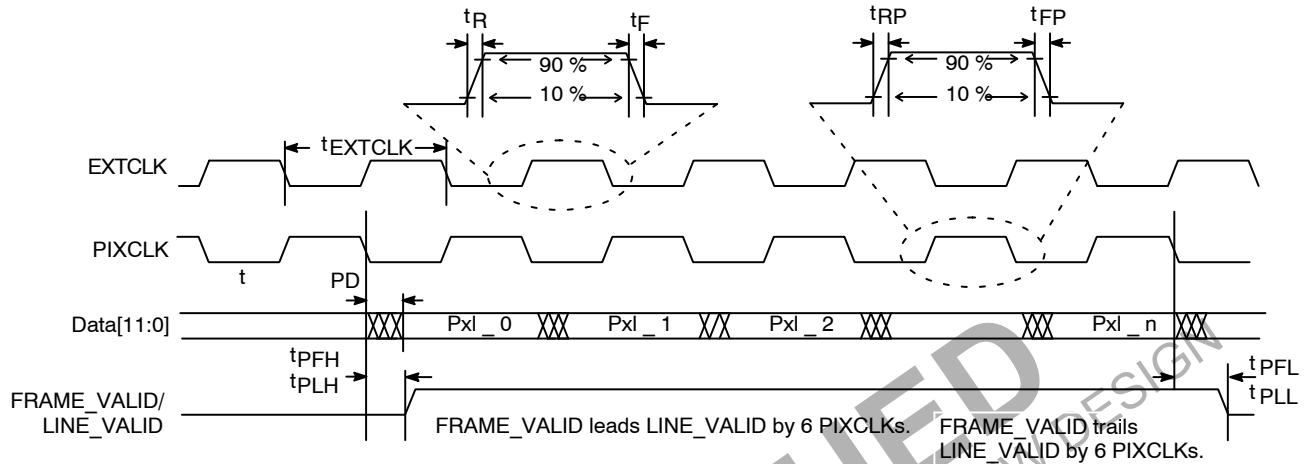

Figure 27. I/O Timing Diagram
See Figure 27 and Table 13 for I/O timing (AC) characteristics.